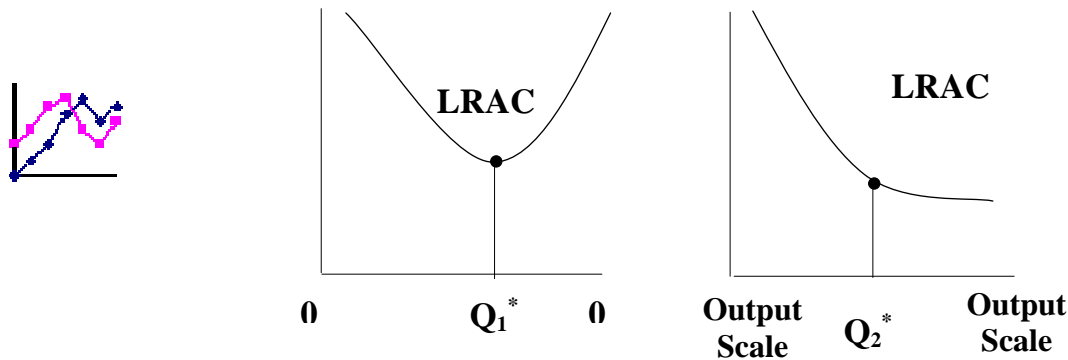

Figure 3.3: Estimate of cost and profit
The shape of LRAC curve is important not only because of its implications for plant scale decision but also because of its effects on the potential level of competition especially when it declines in some industries. Normally firms encounter a (U) shaped LRAC while other firms encounter an (L) shape LRAC. Insight of the competitive implications of cost/output relation can be gained by estimating the minimum LRAC (Plant optimal size), as shown in Figure 3.3.